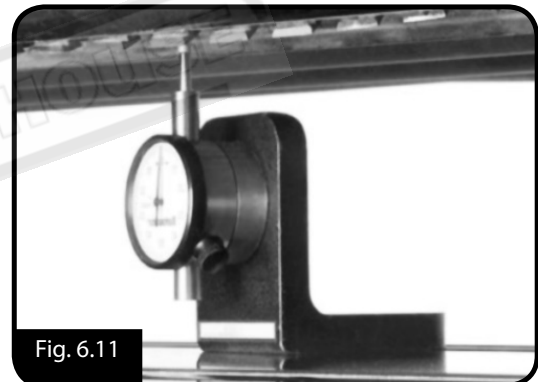

Fig. 6.11
4. Using a dial indicator as shown in Fig. 6.11, find the bottom dead centre of any blade edge by slowly rocking the cutterhead pulley back and forth until the dial indicator finds the lowest point, then set the dial indicator to zero.